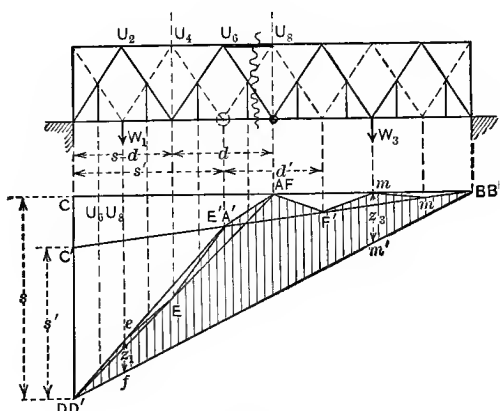

FIG. 23.
**Top Chord of Sub-divided Double Triangular Truss.**—The two principal trusses are shown in Fig. 23 by full and dotted lines. The top chord member  $U_6U_8$  forms a part of each truss. The influence diagram for  $U_6U_8$  as a member of the truss shown by full lines is  $DABD$  and that for the truss shown by dotted lines is  $D'A'B'$ . Connecting these